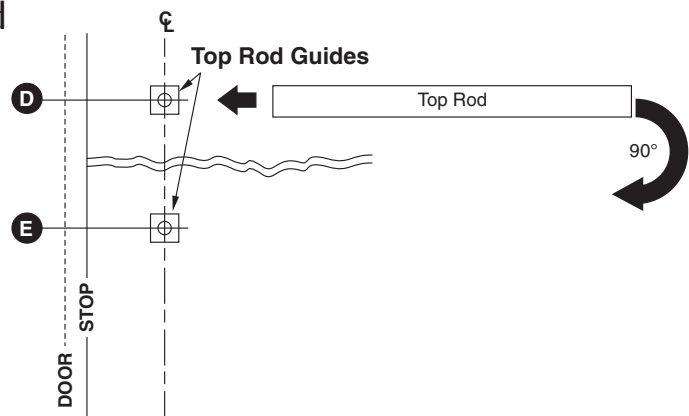

Figure 7
4. Slip top rod over guide and rotate to vertical position, sliding rod down over guide "E". (Figure 7)